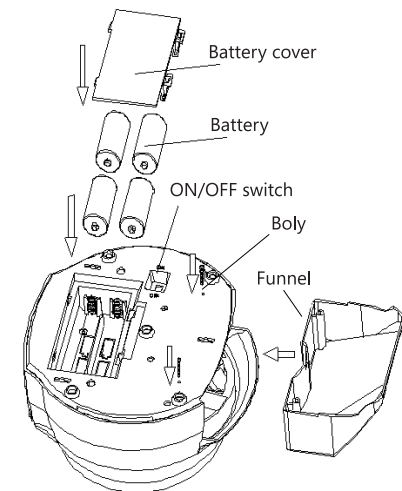

Fig 2
- b. Replacement of battery: place the "+" "-"polar in the right direction. If correct, the feeder works after turning on "ON/OFF" switch. (see fig 2.)